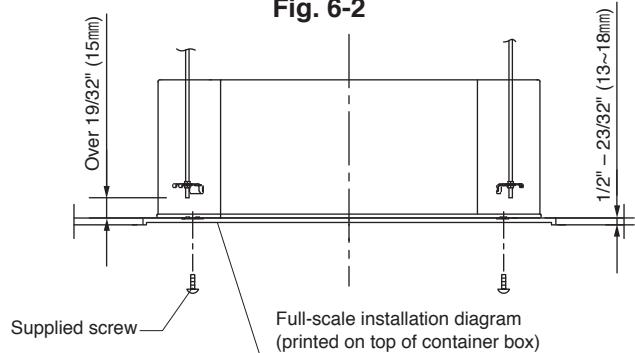

Fig. 6-3
- (1) Be sure to remove the fan protection (4pcs) for transportation before hanging up the indoor unit.
- (2) When placing the unit inside the ceiling, determine the pitch of the suspension bolts using the supplied full-scale installation diagram. (Fig. 6-3)